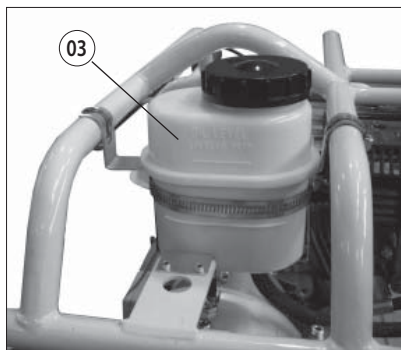

FIG. 14a
- Check extension spring (see figure) on brake release handle (45) are undamaged.
6.1.2) Topping up the oil in the hydraulic pump (Ref. to Fig. 14a)